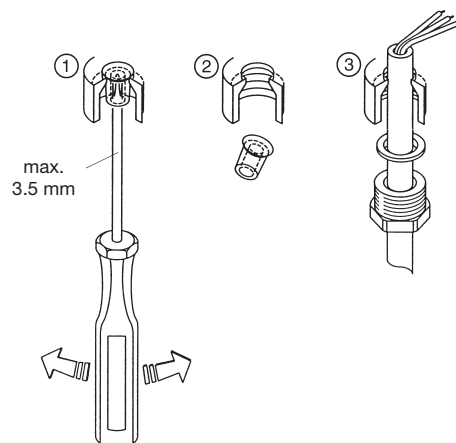

Fig. 11
- remove the cut-outs which have been marked for the PG9 /PG 11 threaded connectors with a screwdriver (see ① and ② Fig. 11)
Fit the PG 9 / PG 11 threaded connectors (see ③, Fig. 11)